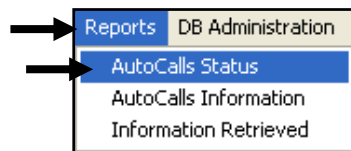

Fig. 9.1
- 1) Select the **Reports menu** and then select **AutoCalls Status** (Fig. 9.1).